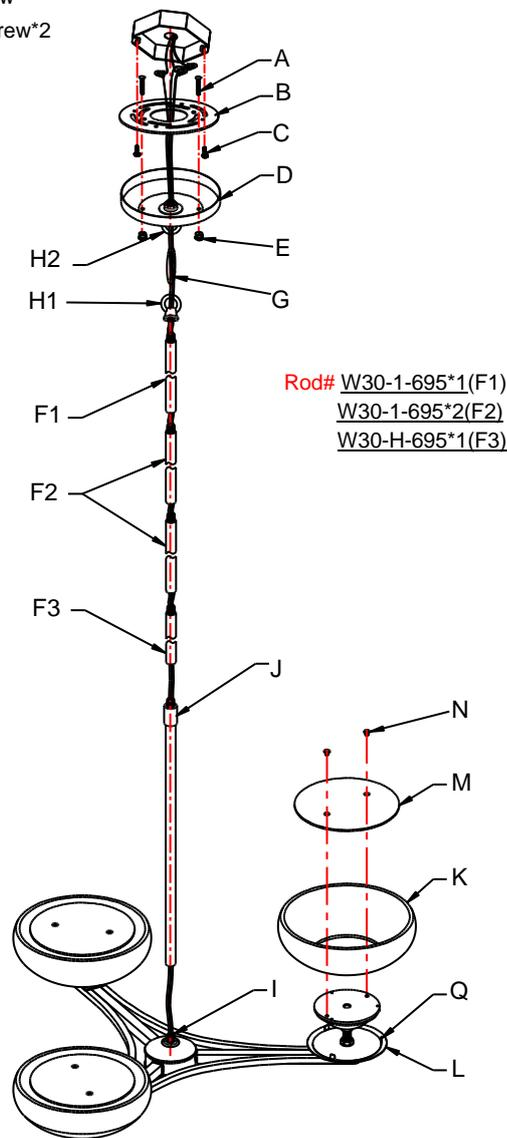

Fig. 3
CONNECTING THE WIRES (Fig. 3)
8. Connect the electrical wires as shown in fig 3, making sure that all wire connectors are secured. If your outlet has a ground wire (green or bare copper), connect the fixture's ground wire to it. Otherwise, connect the fixture's ground wire directly to the circular strap (B) using the green screw provided.
9. Tuck the wire connectors neatly into the ceiling junction box and then raise the canopy (D) to the ceiling.